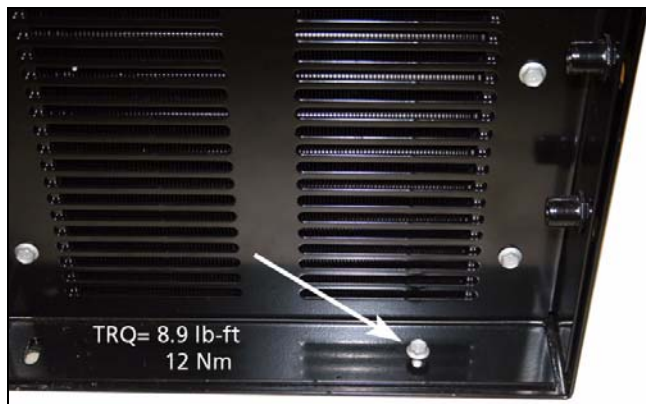

Figure 36. Condenser assembly
5. Remove the front lower hex-bolt securing the front grille to the base. See Fig. 36.